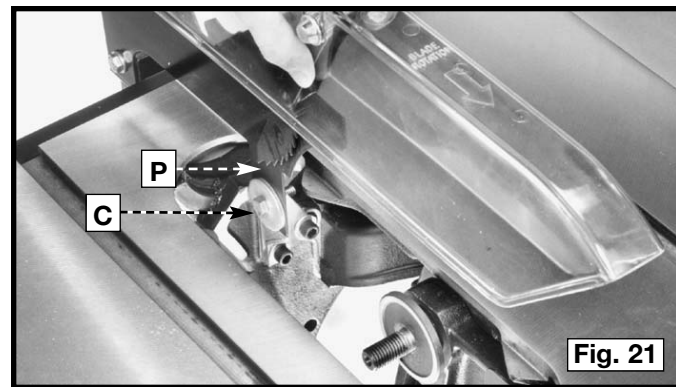
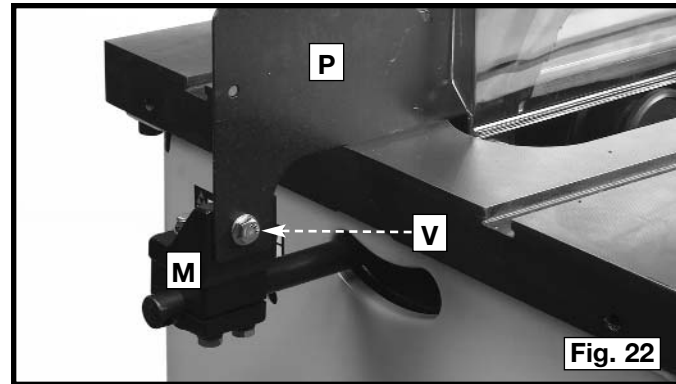

Fig. 21
Fig. 22
9. Insert the front end of splitter (P) Fig. 21, inside the splitter mounting bracket, behind the splitter fastener plate and the screw (C). Push the splitter down as far as possible, making certain that the bottom edge of splitter (P) is parallel with the table surface. Tighten the screw (C). Fasten splitter and blade guard assembly (P) Fig. 22 to the bracket (M) using a 5/16-18x1" hex head bolt (V) and 5/16" flat washer.